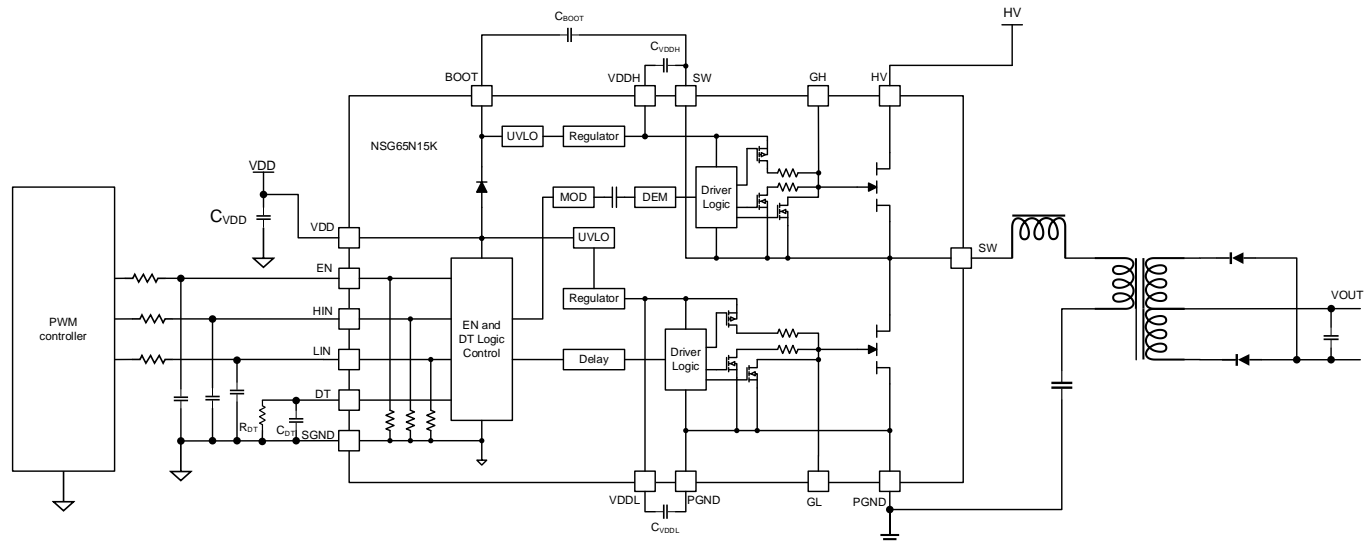

Figure 8.1 Typical Half-Bridge Application Schematic
Signal Ground (SGND) and Power Ground (PGND): SGND is the GND for all internal control logic and digital inputs. Internally, the SGND and PGND pins are isolated from each other. PGND is the return reference of the low side gate drive and VDDL. C_{VDDL} should be referenced to the PGND but separate from the power stage ground as shown in Figure 8.1.
Switch Node (SW): SW is the return reference of high side gate drive. C_{VDDH} and C_{BST} should be referenced to the SW pin but separate from the power stage switch node as shown in Figure. 8.1 .